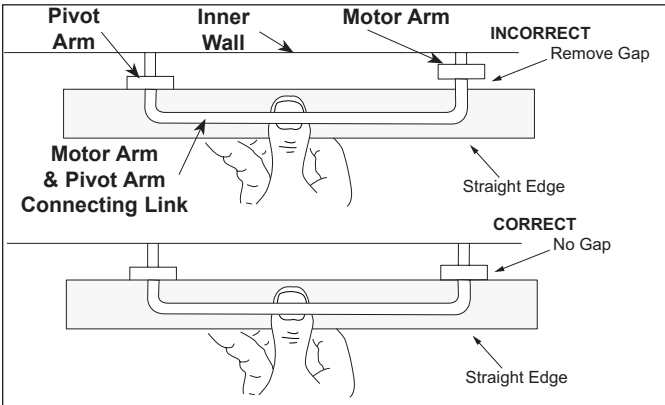

Figure 5. Aligning Drive Components
3. Place a straightedge on the outside surface of the Pivot Arm and Motor Arm (Figure 5). There should be **no gap** between the Motor Arm and the straightedge.
6. Place the straightedge on the outer surface of the Pivot Arm and Motor Arm. Position the Motor Arm until no gap exists as shown in Figure 5.